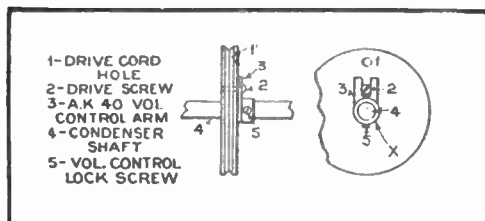

FIGURE 14
arms as taken from an Atwater Kent model 40, cut to shape as in Figure 14 (x) costing us 10c; three feet of ½-inch strap iron, 10c; 1 grid leak, 4 meg., 35c; 1 midget condenser, \$1.25, and an old Bradleystat used in the positive leg of the detector plate condenser, 10c. Then in the junk box we found an old nineteen-plate condenser which we used for the capacity unit in the plate circuit of the detector tube.
The finished discs should be placed in a vise, one at a time, drill a hole large enough to accommodate the cord used to drive the condensers, starting at the bottom of the groove and holding the drill at such an angle that it will come out near the screw (2), Figure 14, under which the cord is looped as in Figure 17. The size of screw 2 should be 6-32.
has been shaped as shown in Figure 14 (x). Lock each disc at the volume-control arm as in Figure 17 (x) and (y), set the condensers at their maximum capacity and run the drive cable with the volume-control arms (used as couplers hooking the discs to the shafts) set in the positions shown in Figure 17. Drill the holes in the main panel for the accommodation of this unit, and with the nuts from the old dry cells space the condenser unit the desired distance from the main panel and fasten securely.